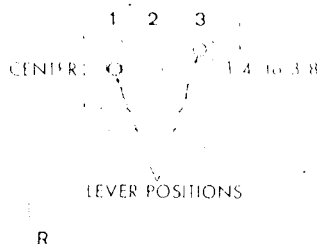

Figure 6
8. It may be necessary to adjust the shift linkage slightly for proper traction disc engagement. Check the adjustment by shifting into first gear. The shift lever should drop to the center of the slot. Figure 6. Then shift into third gear; the lever should drop to 1/4" to 3/8" from the bottom of the slot. If adjustment is necessary, remove hair pin cotter, washer, and clevis pin. Rotate clevis inward (clockwise) to lower lever in slot, outward (counterclockwise) to raise lever in slot. Turn clevis one turn at a time until proper adjustment is achieved. Reinstall pin, washer and hair pin cotter. (Also see Traction Disc Adjustment, pages 9 & 10).